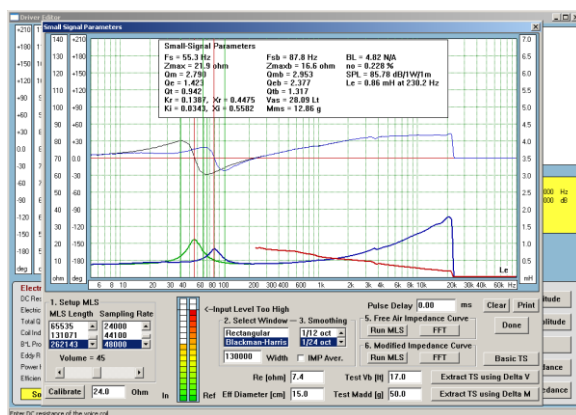

Figure 17.2 Measurement of linear parameters
2. Voice coil inductance varies with frequency and the inductor is actually a "semi-inductor" type. The Volterra series expansion model assumes that the inductor is actually a "normal" inductance. Therefore, there will be a discrepancy between measured inductor value and the modeled inductor. The value of the inductor increases several times going towards low frequencies. On the example below, the inductance increase 6-fold from 20kHz down to 150Hz – see Figure 17.2 below (brown curve).